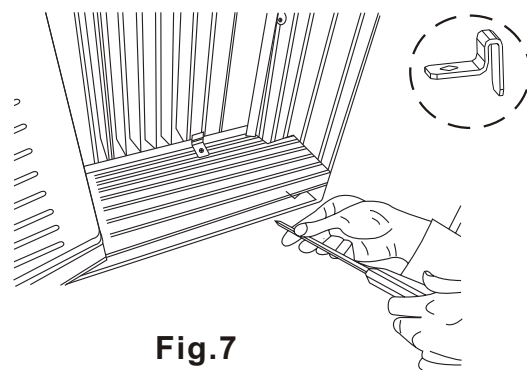

Fig.7
- A. Place the frame lock between the frame extensions and the window sill as shown(Fig.7). Drive 3/4" (19mm) or 1/2" (12.7mm) locking screws through the frame lock and into the sill.